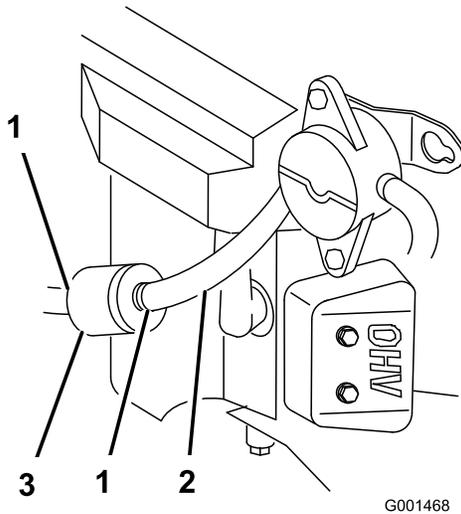

Figure 41
- Squeeze the ends of the hose clamps together and slide them away from the filter (Figure 41).